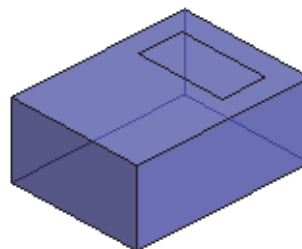

Figure 1–101
6. The start of a mass form is a sketch. How do you place a sketch on another form, as shown in Figure 1–101?